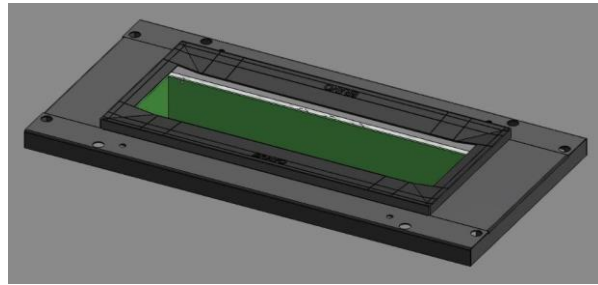

Fig.6
2. If there is any interference from conduit and piping, the tray may be trimmed. (Fig.6)